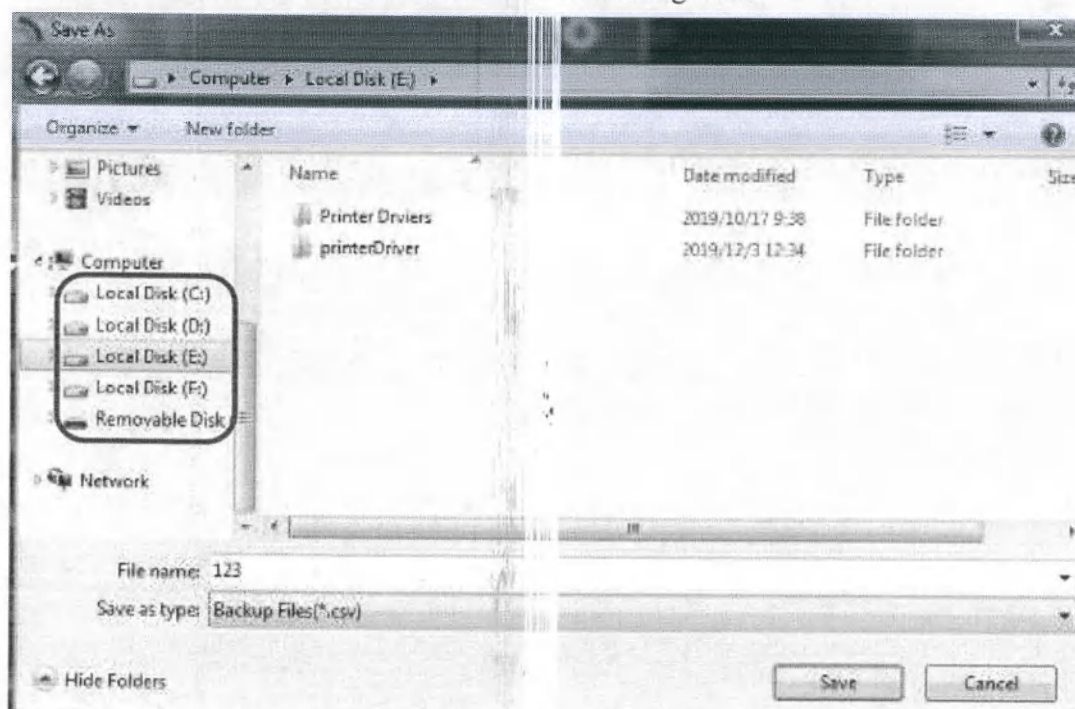

Fig. 6-15 Export path
- Choose the export path, you can choose local disk, you can also choose external U disk or external mobile hard disk. As shown in fig. 6-15.